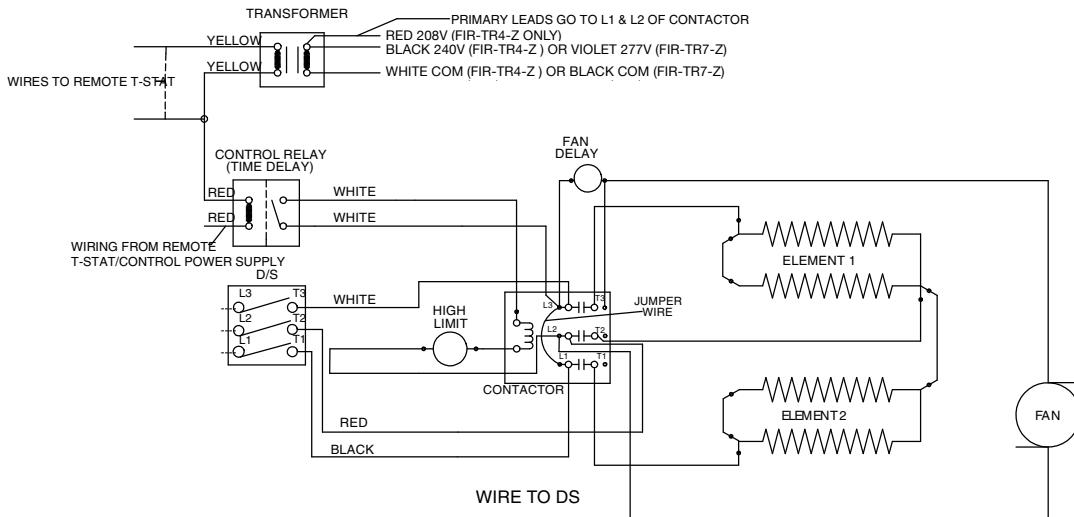

Figure 10
3. To wire the transformer, relay, and thermostat, refer to the wiring diagram, Figure 10, and proceed as follows:
- h. Splice together the second YELLOW wire from the transformer with the COM wire and the RED wire via a wire nut. (Refer to Figure 10).